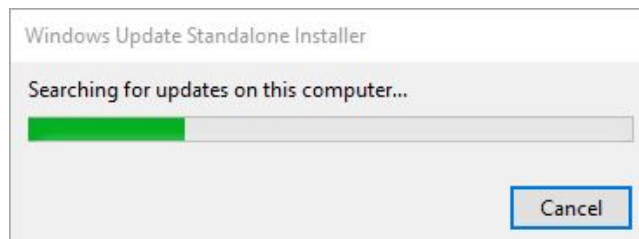

Figure 4.24: Windows Updates
14. Wait for Windows updates to be checked, as shown in figure 4.24.